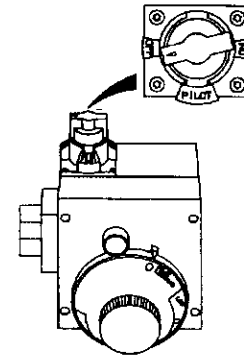
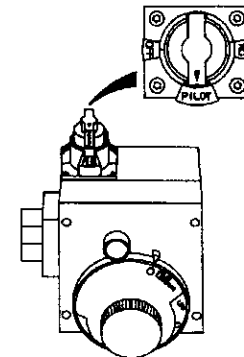

Figure 6
Figure 7
4. Turn gas control knob clockwise () to "OFF" position. Knob cannot be turned from "PILOT" to "OFF" unless knob is depressed slightly. **DO NOT FORCE.** (Figure 6, page 17)
5. Wait five (5) minutes to clear out any gas. If you then smell gas, **STOP!** Follow "B" in the safety information above on this label. If you don't smell gas, go to the next step.
8. If you don't smell gas, turn knob on gas control counter clockwise () to "PILOT" position. (Figure 7, page 17)
9. Push in control knob all the way and hold down. Immediately light the pilot with a match. Continue to hold control knob in for about one (1) minute after the pilot is lit. Release knob and it will pop back up. Pilot should remain lit. If it goes out, repeat steps 3 through 8.
- If the pilot will not stay lit after several tries, depress and turn the gas control knob clockwise () to "OFF" and call your service technician or gas supplier. (Figure 6, page 17)